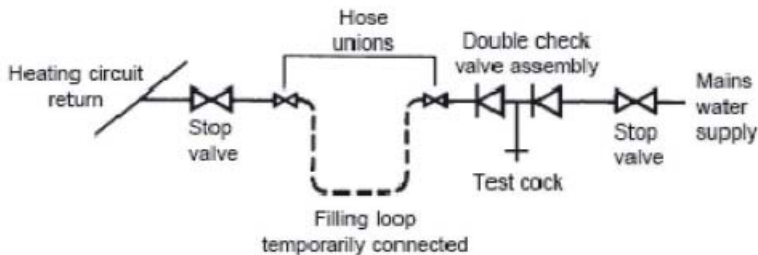

Fig. 5
#### 2.3.3 Requirements for sealed water systems (fig. 5)
d) A sealed system must only be filled by a competent person using a method similar to that shown in fig. 5. The system design should incorporate the connections appropriate to one of these methods.